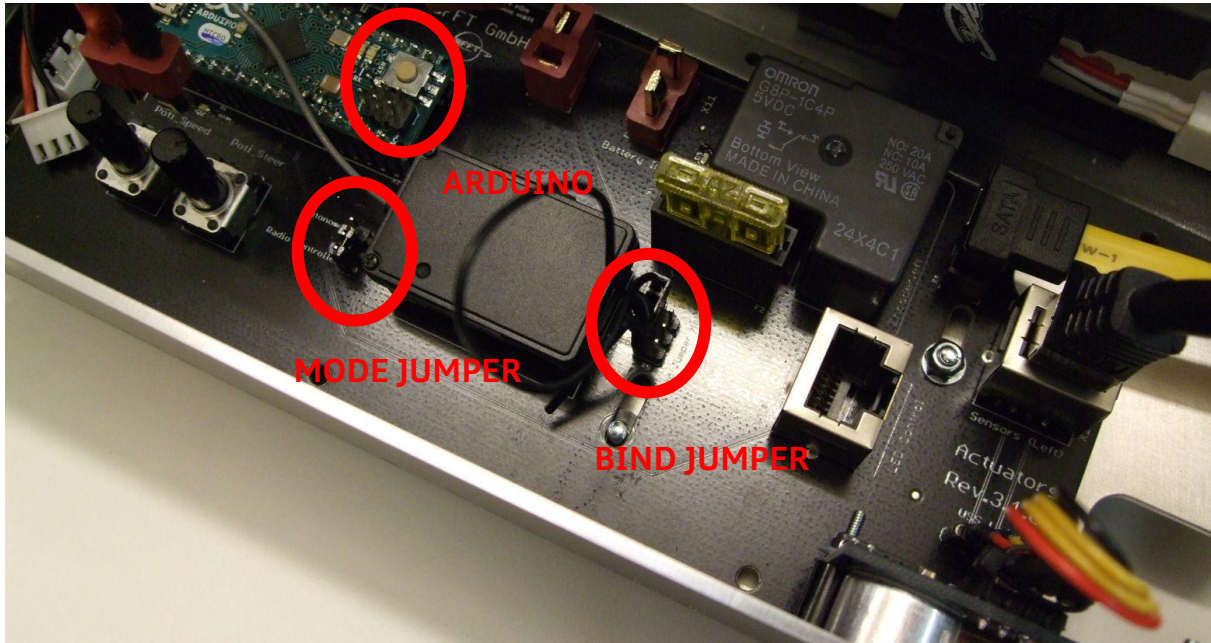

Figure 41 Binding Controller and Receiver
1. Set the *Bind Jumper* to the *Bind Jumper* position (as shown in Figure 41)and not to the *Bind Jumper Holder* position .